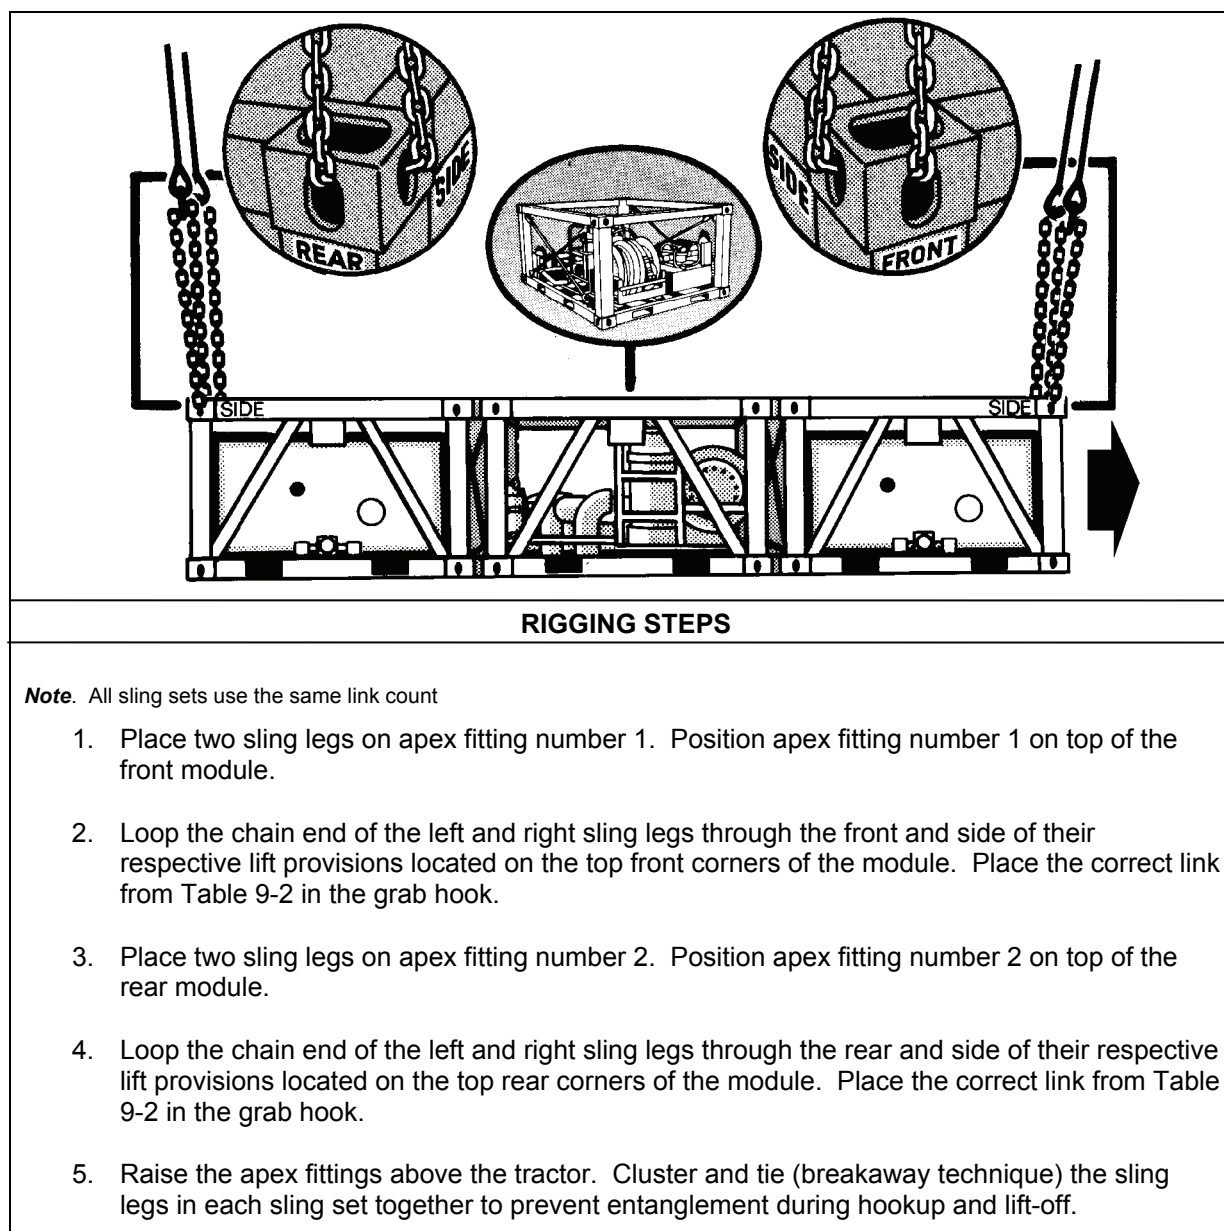

Figure 9-2. Three Modules, Fuel/Water
- **Rigging.** Rig the load according to the steps in Figure 9-2.